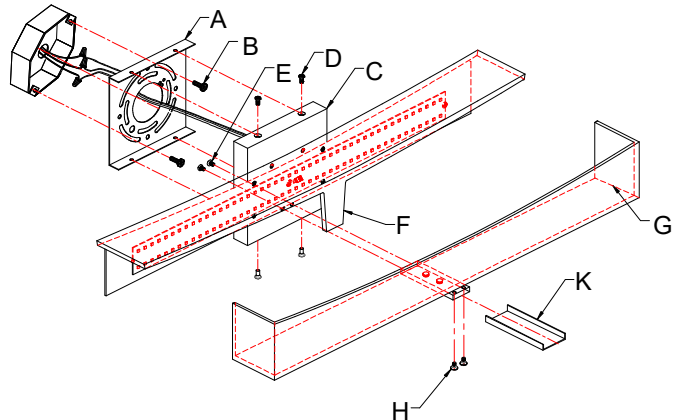

Fig. 2
CONNECTING THE WIRES (FIG. 2)
6. Connect the electrical wires as shown in Fig. 2, making sure that all wire connectors are secured. If your outlet has a ground wire (green or bare copper), connect the fixtures ground wire to it. Otherwise, connect the fixture ground wire directly to the mounting plate (A) using the green screw provided.
8. Align fixture back plate (C) onto mounting plate (A) and secure with screws (D).